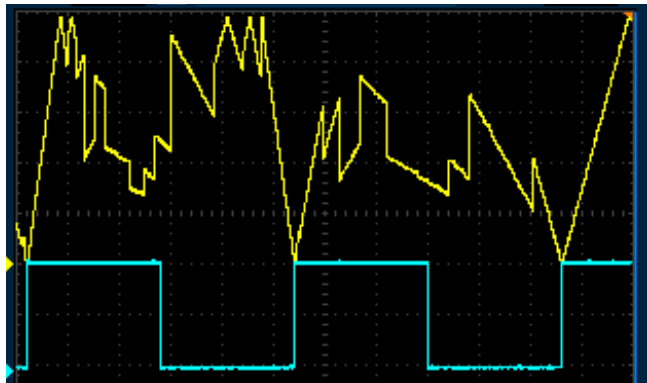

Figure 1B: Changing Div/Mult while holding a gate high on QNT Slope of envelope changes each time the Div/Mult CV/knob moves to a new div amount
- Giving a pulse to the QNT jack will force an update of the div/mult amount immediately (in the middle of a curve if necessary). If you hold a gate high on the QNT jack, the div/mult amount will track the CV (glitchy envelope shapes can be obtained this way!) See Figure 1B.